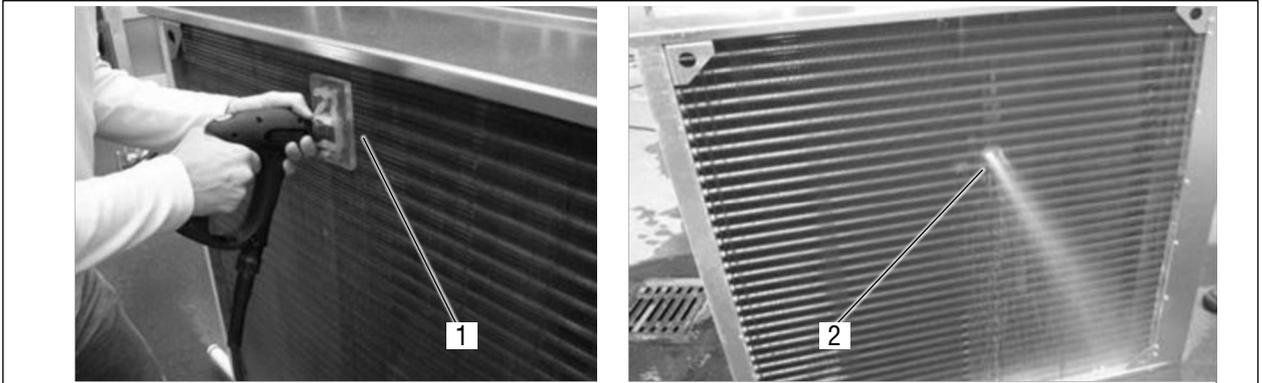

Fig. 55 THD multi-jet method
- The cleanability of the AL-KO THERM heat exchanger registers using the THD multi-jet method was demonstrated by the Institute for Air Hygiene Berlin during the hygiene conformity evaluation for the AL-KO air handling units (see Fig. 55 THD multi-jet method).